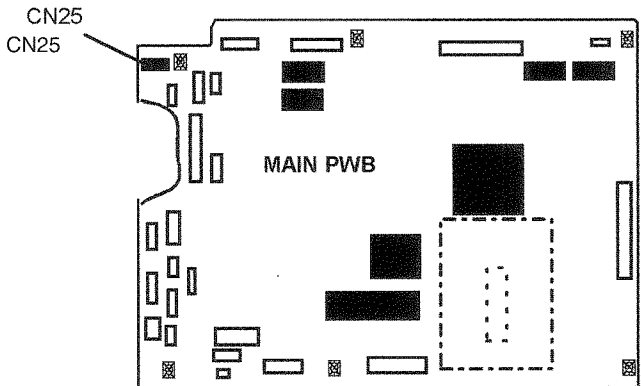

Figure 1 Main PWB
Check the position of the Operating Mode Switch (2) Up Position is toward LED?s D1 and D2 . Refer to Figure 1. **The Operating Mode Switch (2) Up Position is toward LED?s s are in the Operating Mode Switch (2) Up Position is toward LED?s .**